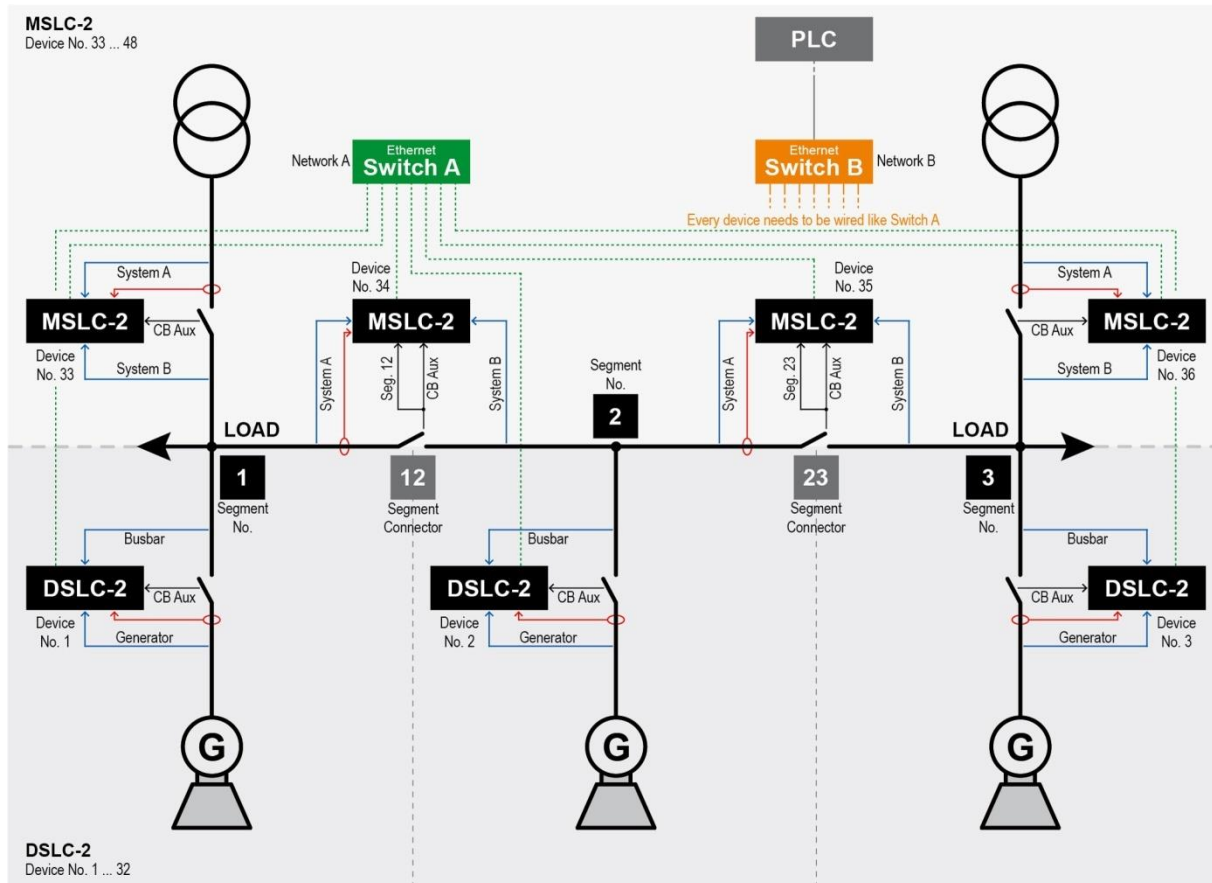

Figure 3-119: Example of an online diagram with all required information to setup the units
7. You can optionally draw the current measurement and the amount of phases in your online diagram (refer to Figure 3-119). Please consider following rules (for a better overview and understanding):